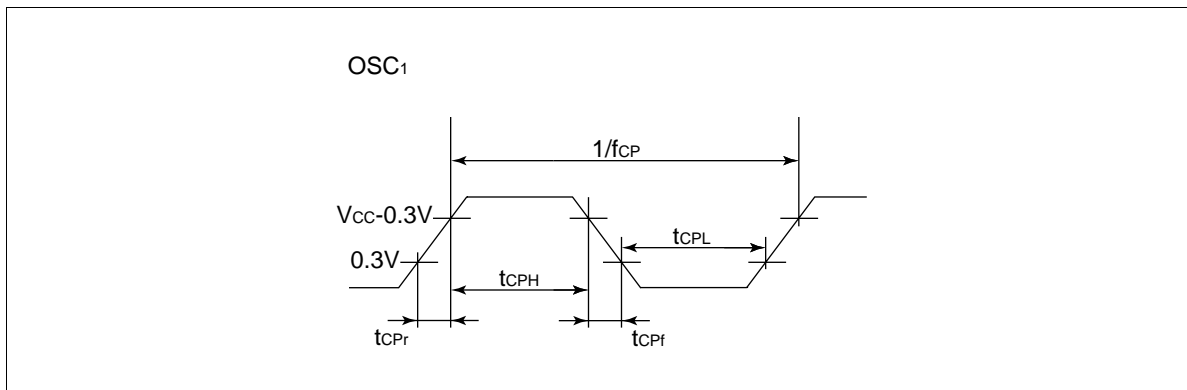

Figure 79 External Clock Input Waveform
- (1) The time required for the oscillation to settle after V_{CC} has reached standard minimum at power-on.
- (2) The time required for the oscillation to settle after $\overline{\text{RESET}}$ input has gone low when stop mode is cleared.
7. See figure 79.